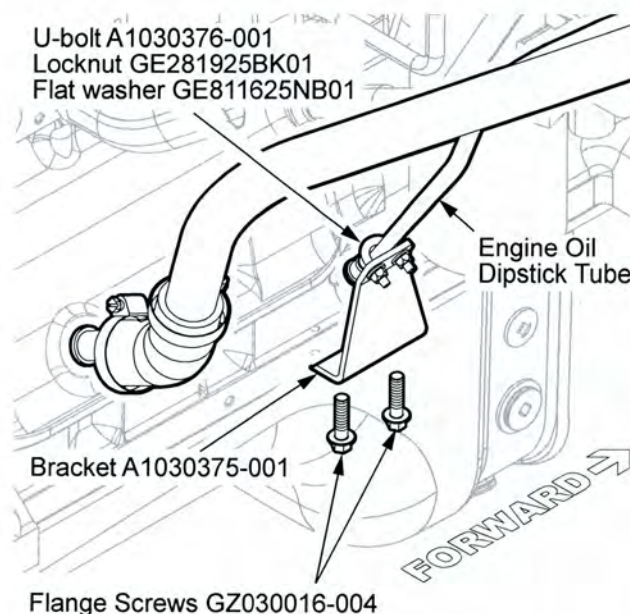

Figure 5
9. Secure the engine oil dipstick tube to the bracket by installing the U-bolt (A1030376-001), two flat washers (GE811625NB01) and two locknuts (GE281925BK01) (see *Figure 5*). Tighten the two locknuts to 250 in-lbs (28 N·m) of torque.